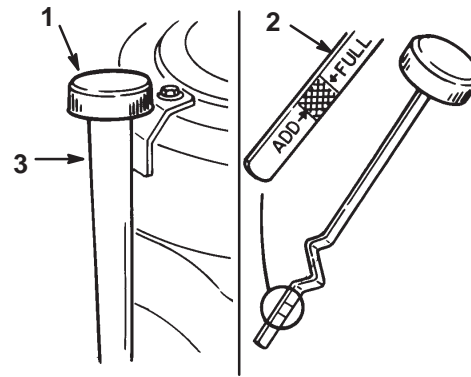

Figure 15
2. Clean around the oil dipstick (Fig. 15) so that dirt cannot fall into the filler hole and damage the engine.
3. Unscrew the oil dipstick and wipe the metal end clean (Fig. 15).
4. Slide the oil dipstick fully into the filler tube and tighten it (Fig. 15). Unscrew the dipstick, pull it out, and look at the metal end. If the oil level is low, slowly pour only enough oil into the filler tube to raise the level to, but not over, the Full mark on the dipstick.
5. Clean around the oil dipstick and unscrew the cap (Fig. 15).
6. Slowly pour approximately 80% of the specified amount of oil, page 20, into the filler tube (Fig. 15). Check the oil level; refer to Checking the Oil Level, page 20. Slowly add additional oil to bring the level to the Full mark on the dipstick.